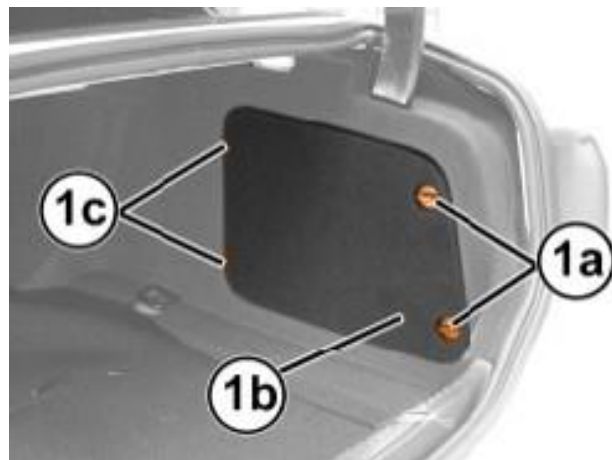

Figure 36 – Battery Cover
15. Remove the battery cover (1b) by releasing retainers (1a) (Figure 36).